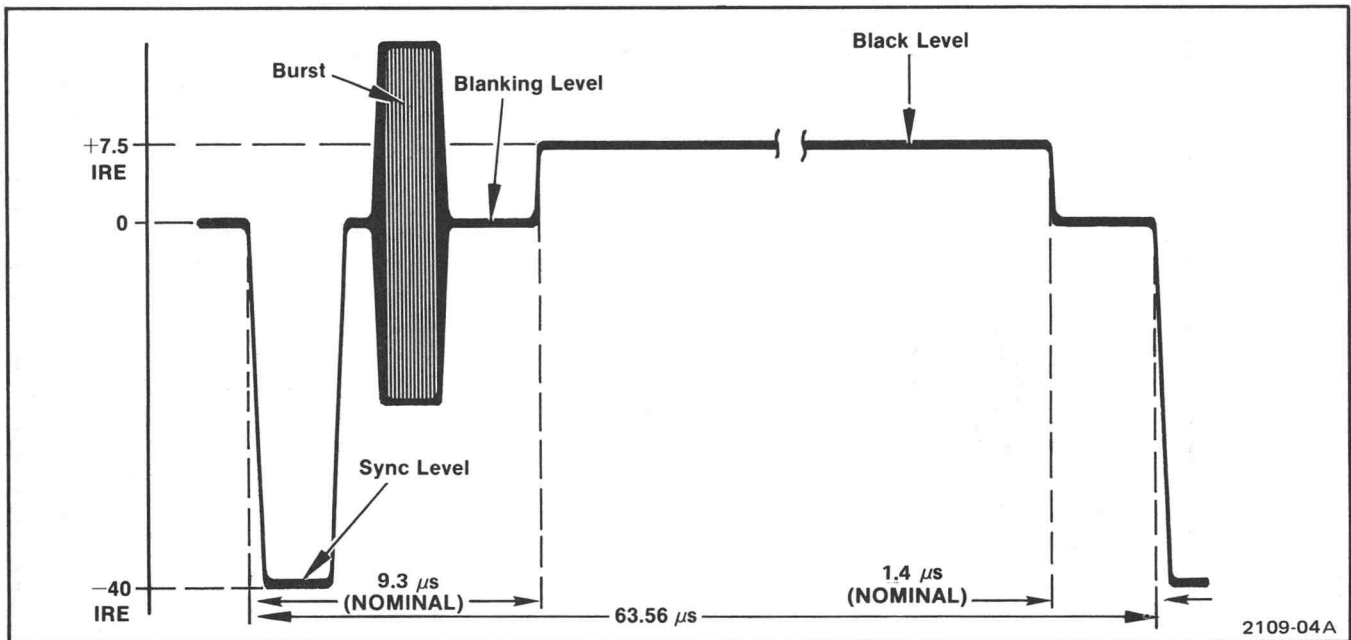

Fig. 1-4. Black Burst timing details.
- a. Check—Refer to Fig. 1-4 for timing details.